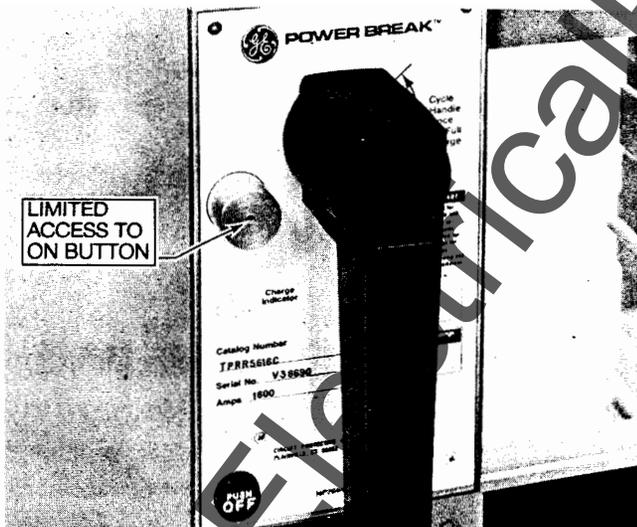

FIG. 42
- I. Limited close access button ("C") suffix in catalog number (Fig. 42).